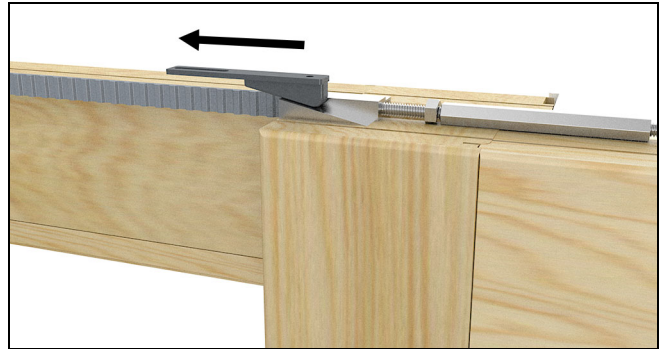

Figure 54
6. Pull the ramp tight so that it fully contacts the turnbuckle. See Figure 54.